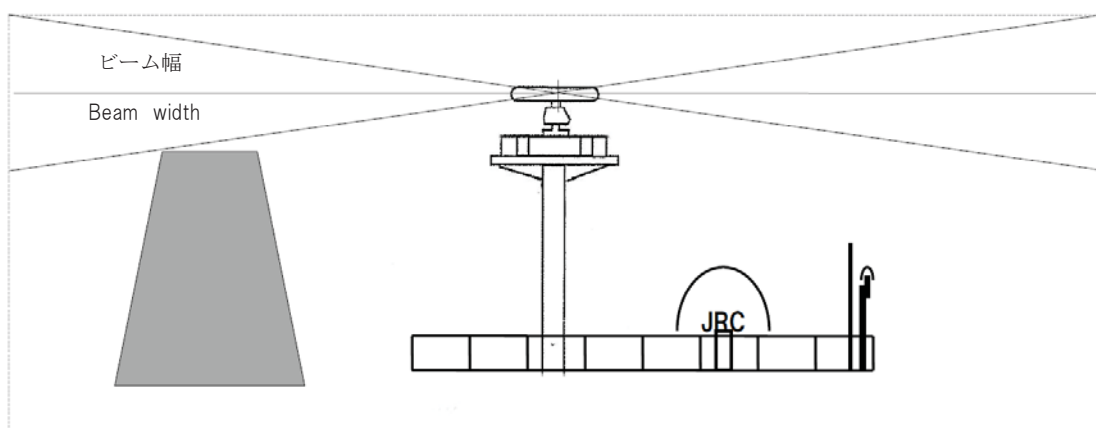

Fig.1-4 Antenna and the surrounding structural objects
- When installing the antenna, select a location where there are the fewest structural objects in the surrounding area so that false images which interfere with target detection will not be generated by signal reflection from other antennas, equipments, and cargos. Only as a guide, note that structural objects should not exist within the range of the vertical beam width (Fig.1-4).